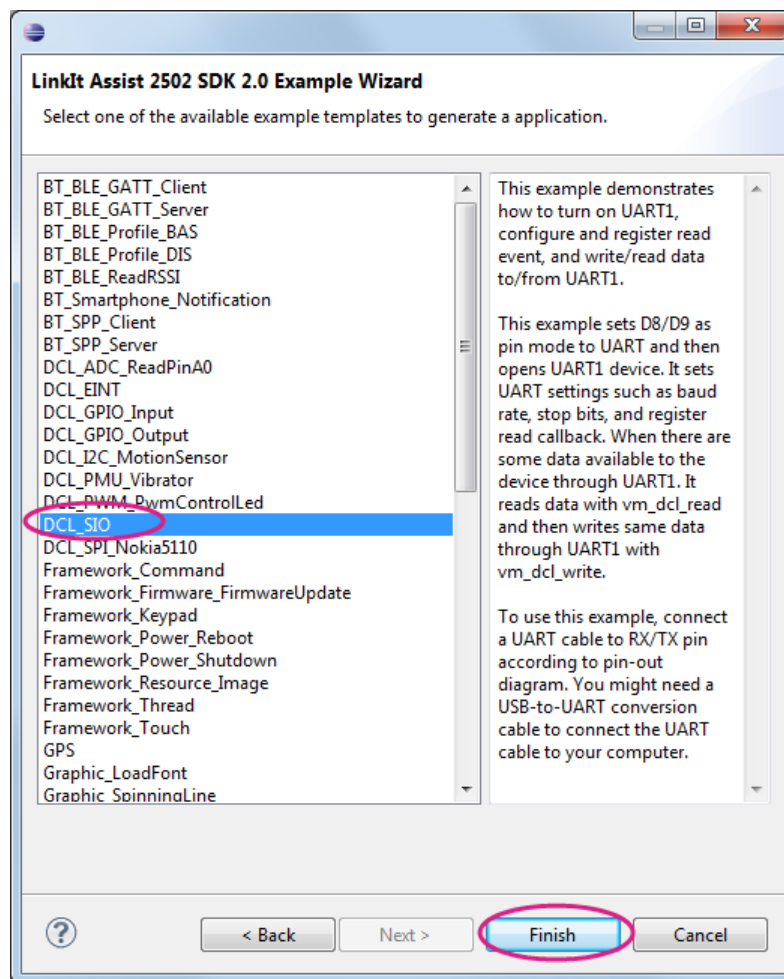

Figure 26 LinkIt example code list
- 3) A list of example applications (on the left) and their descriptions (on the right) appear in the **LinkIt Assist 2502 SDK 2.0 Example Wizard** window, as shown in Figure 26.